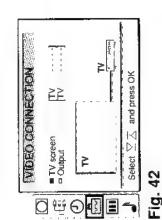

Fig. 42
- 1 Select the symbol for »Video Connection« with $\Delta+$ or $\nabla-$ and press OK. The VIDEO CONNECTION menu appears. (See Fig. 42)